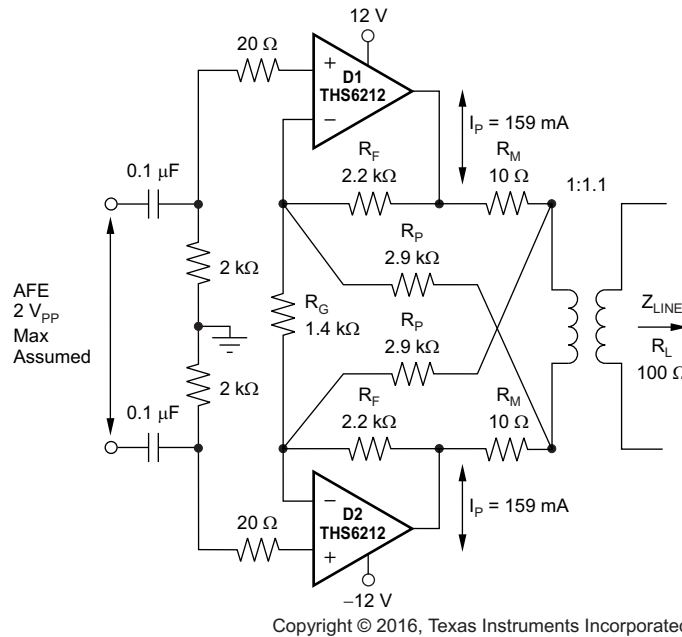

Figure 84. Dual-Supply Downstream Driver
Evaluating these equations for the THS6212 circuit and component values of Figure 84 gives a total output spot noise voltage of 38.9 nV/√Hz and a total equivalent input spot noise voltage of 7 nV/√Hz.
Figure 84 shows an example of a dual-supply downstream driver with a synthesized output impedance circuit. The THS6212 is configured as a differential gain stage to provide a signal drive to the primary winding of the transformer (a step-up transformer with a turns ratio of 1:n is shown in Figure 84). The main advantage of this configuration is the cancellation of all even harmonic-distortion products. Another important advantage is that each amplifier must only swing half of the total output required driving the load.
The main design requirements for Figure 84 are to match the output impedance correctly, satisfy headroom requirements, and ensure that the circuit meets power driving requirements. These requirements are described in the *Detailed Design Procedure* section and include the required equations to properly implement the design. The design must be fully worked through before physical implementation because small changes in a single parameter can often have large effects on performance.
For Figure 84, the input signal is amplified with a gain set by Equation 6:
When using a synthetic output impedance circuit (see Figure 84), a significant drop in bandwidth occurs from the specification provided in the Electrical Characteristics tables. This apparent drop in bandwidth for the differential signal is a result of the apparent increase in the feedback transimpedance for each amplifier. This feedback transimpedance equation is given by Equation 16:
For the example given by Figure 84, the peak current is 159 mA for a signal that requires a crest factor of 5.6 with a target line power of 20.5 dBm into a 100- $\Omega$  load (115 mW).
With a typical quiescent current of 21 mA and a nominal supply voltage of  $\pm 12$  V, the total internal power dissipation for the solution of Figure 84 is given by Equation 19:
- f. Use the  $-V_S$  plane to conduct heat out of the package. The package attaches the die directly to an exposed thermal pad on the bottom, and must be soldered to the board. This pad must be connected electrically to the same voltage plane as the most negative supply applied to the THS6212 (in Figure 84, this supply is  $-12\text{ V}$ ).